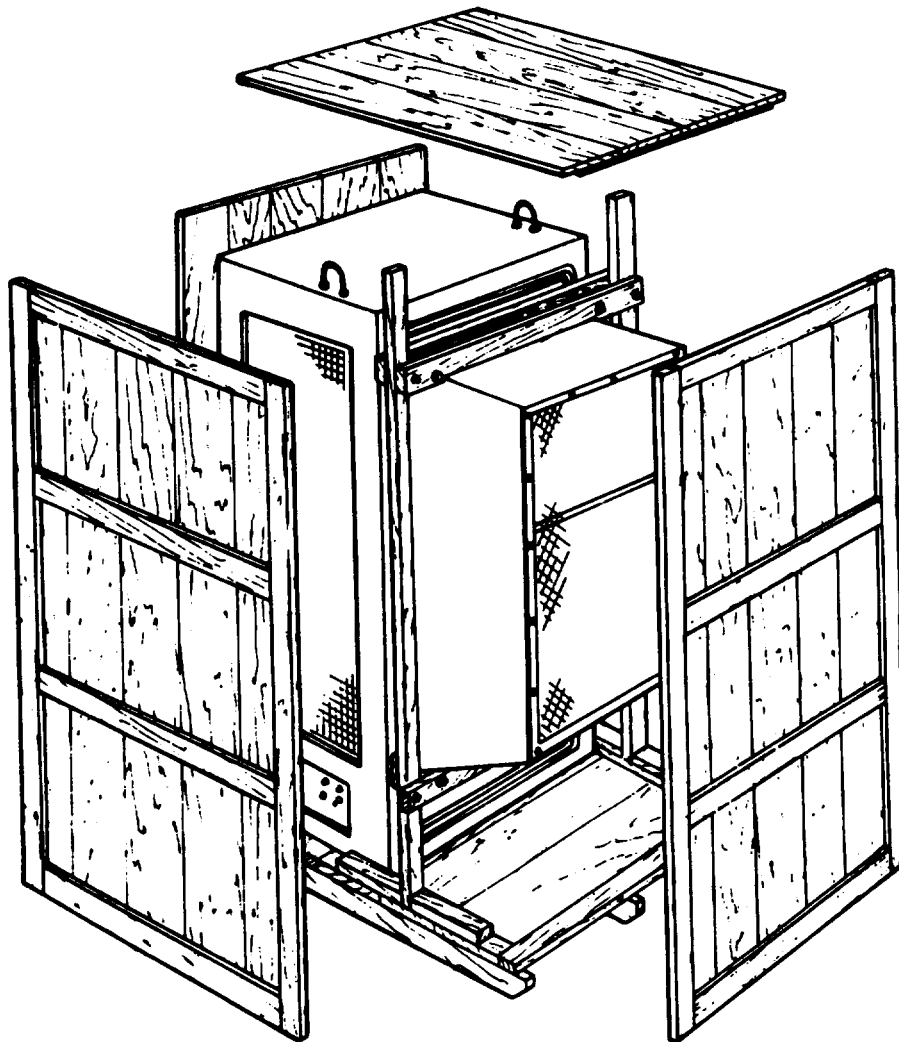

Figure 4-1. Unpacking Refrigeration Unit
a. Unloading. The refrigeration unit is shipped in a crate which has a skid pallet base (fig. 4-1). It should be handled with fork lift equipment, but may be handled by crane and sling. Reasonable precaution should be taken to prevent damage by dropping or bumping.
b. Unpacking. The refrigeration unit (fig. 4-1) is secured in the shipping crate by two uprights with two horizontal bars and is supported by a skid base. First remove the crate top, then the four side panels. Remove the four bolts securing the uprights to the unit.
(1) Inspection.
(2) Servicing.